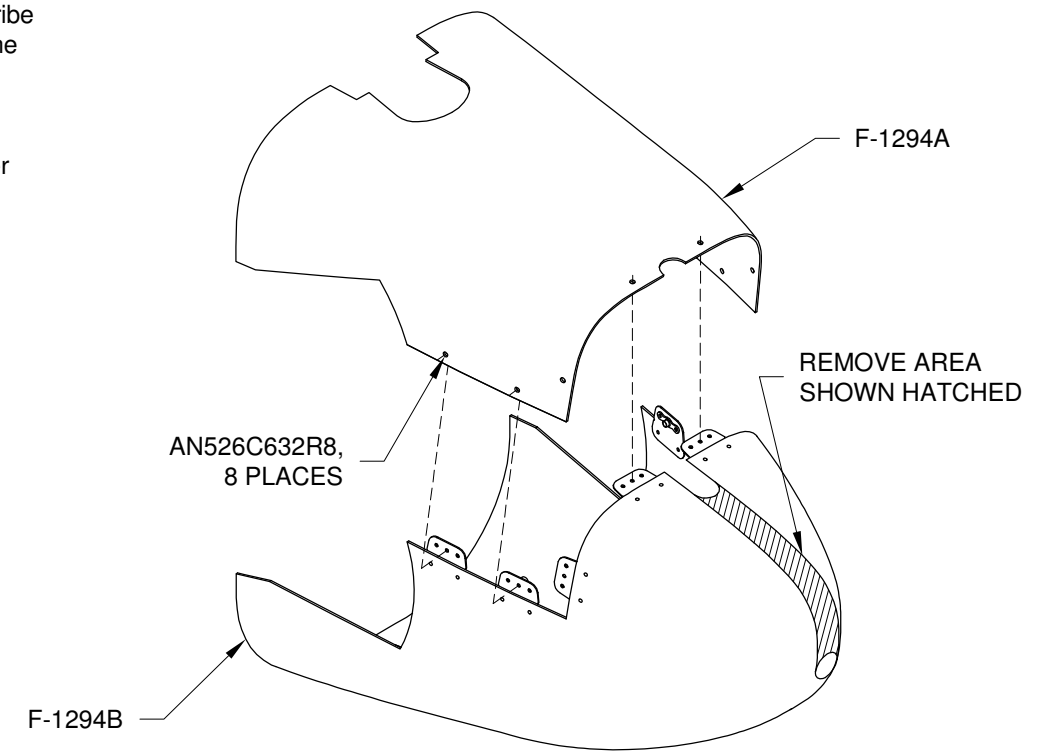

FIGURE 3:
Step 5: Trim the aft slot to the scribe line in the F-1294B Lower Tailcone Fairing by removing the material shown hatched in Figure 3.
Step 6: Attach the F-1294A Upper Tailcone Fairing to the F-1294B Lower Tailcone Fairing using the hardware called out in Figure 3.